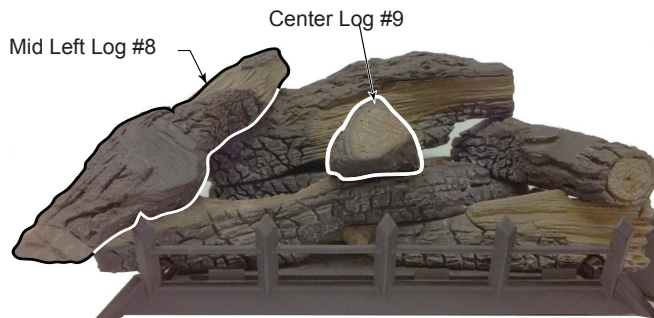

Figure 6.23 - Log #8 & #9 Placement
8. Place mid left log (#8) on mid rear log (#7) and front bottom log (#5) by placing notches on bottom of log onto locating blocks on log #7 and log #5. See Figure 6.23.
9. Place center log (#9) onto front bottom left log (#5) by placing notch on bottom of log #9 onto locating block on log #5. The flat triangle-shaped end of log #9 should be towards front with pointed end of log resting on bottom rear log (#1). See Figure 6.23.